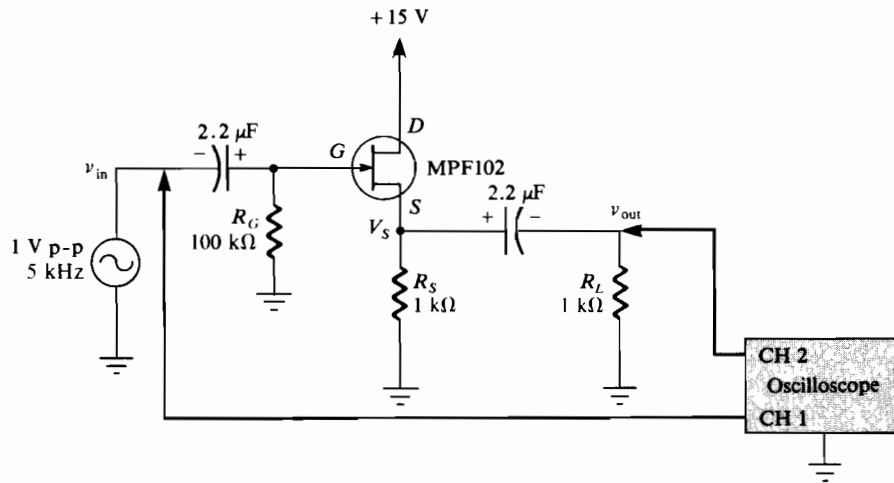

FIGURE 24-1 Schematic diagram of circuit.
1. Wire the circuit shown in Figure 24-1, omitting the signal generator and the power supply.
3. Connect Channel 1 of your oscilloscope to the amplifier's input (v_{in}) and Channel 2 to the 1-k Ω load resistor (v_{out}). Then connect the signal generator to the circuit as shown in Figure 24-1, and adjust the sine wave output level of the generator at 1 V *peak-to-peak* at a frequency of 5 kHz.
1. For the circuit of Figure 24-1 with $I_{DSS} = 10 \text{ mA}$ and $g_{m0} = 5000 \mu\text{S}$, the voltage gain from gate to source is approximately
3. If the JFET forward transconductance in the circuit of Figure 24-1 is increased, the voltage gain will
4. If the load resistor R_L in the circuit of Figure 24-1 is decreased, the voltage gain will